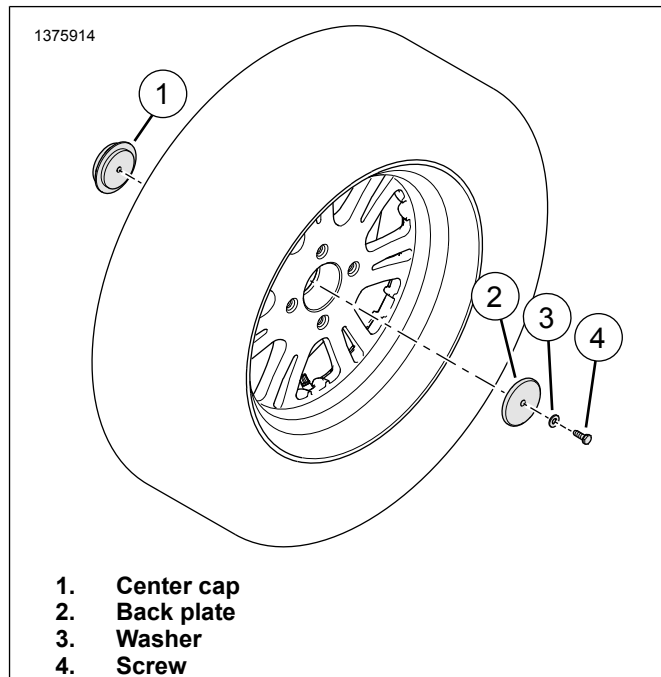

Figure 2. Center Cap
4. See Figure 2. If necessary, remove center cap.
- a. Remove screw (4) and washer (3).
- b. Remove backplate (2).
- c. Remove center cap (1).
2. See Figure 2. If necessary, install center cap.
- a. Apply threadlocker to screw (4).